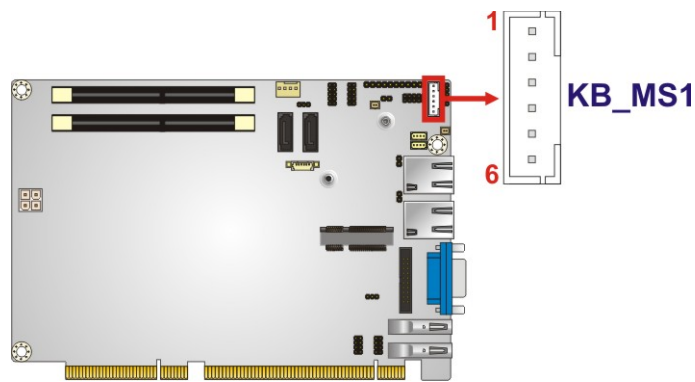

Figure 3-15: Keyboard and Mouse Connector Location
- CN Location:** See **Figure 3-15**